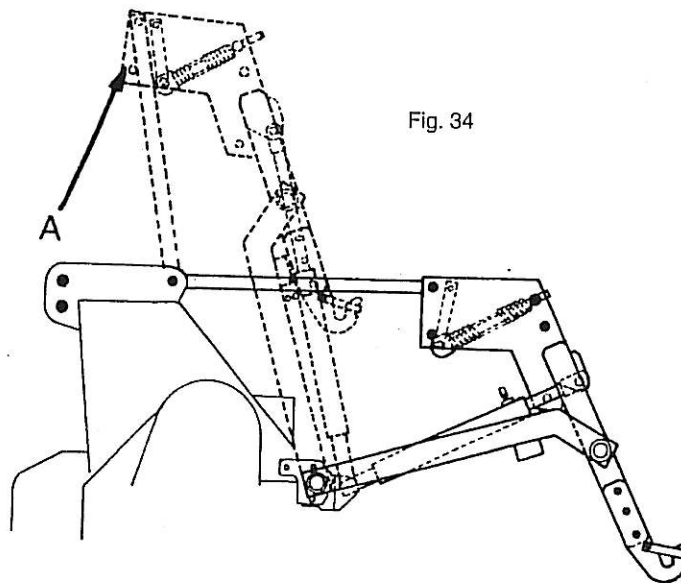

Fig. 34
Care has to be taken when attaching the implement to the combi hitch that the rams do not foul any bracketry. A safety pin (A) can be fitted to securely lock the hitch when in the raised transport position. See Fig. 34.